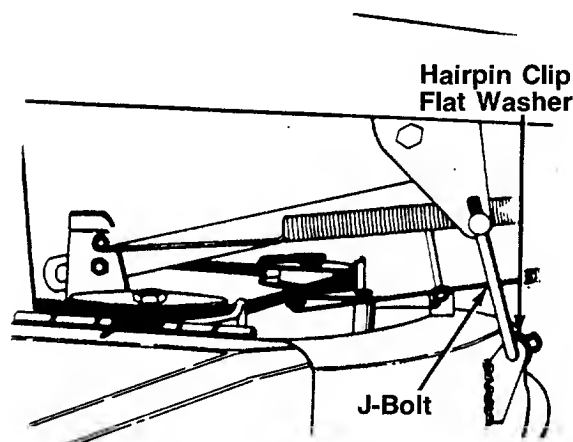

FIGURE 12.—Models 1002 and 1208
3. If the front is not between 1/4" and 3/8" lower than the rear, remove the hairpin clips and flat washers which secure the J-bolts to the front of the deck, both right and left sides. See figure 12. Thread the J-bolts into or out of the ferrules as necessary.